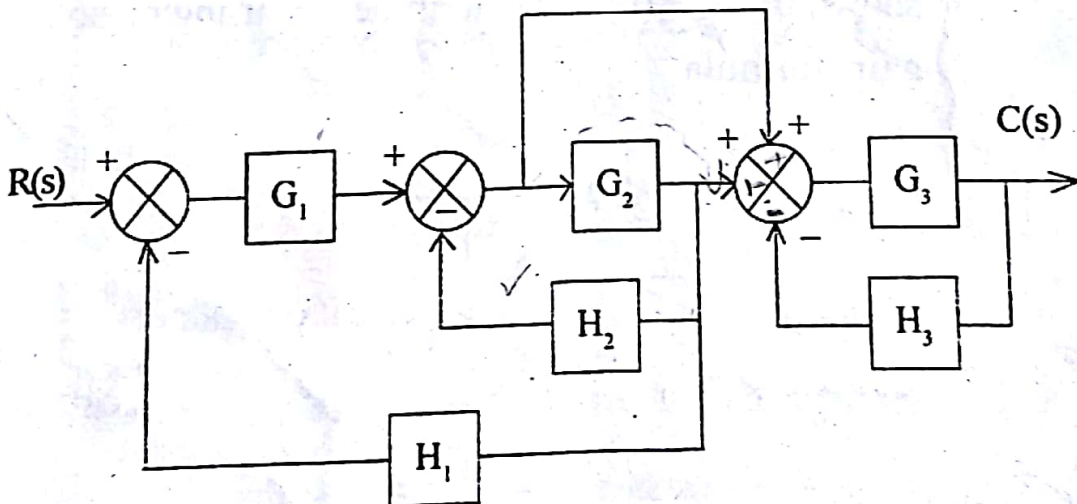

Fig. 3(a)
3. (a) Determine T.F.  $\frac{C(s)}{R(s)}$  of a system shown in Fig. 3(a) by block diagram algebra. 8